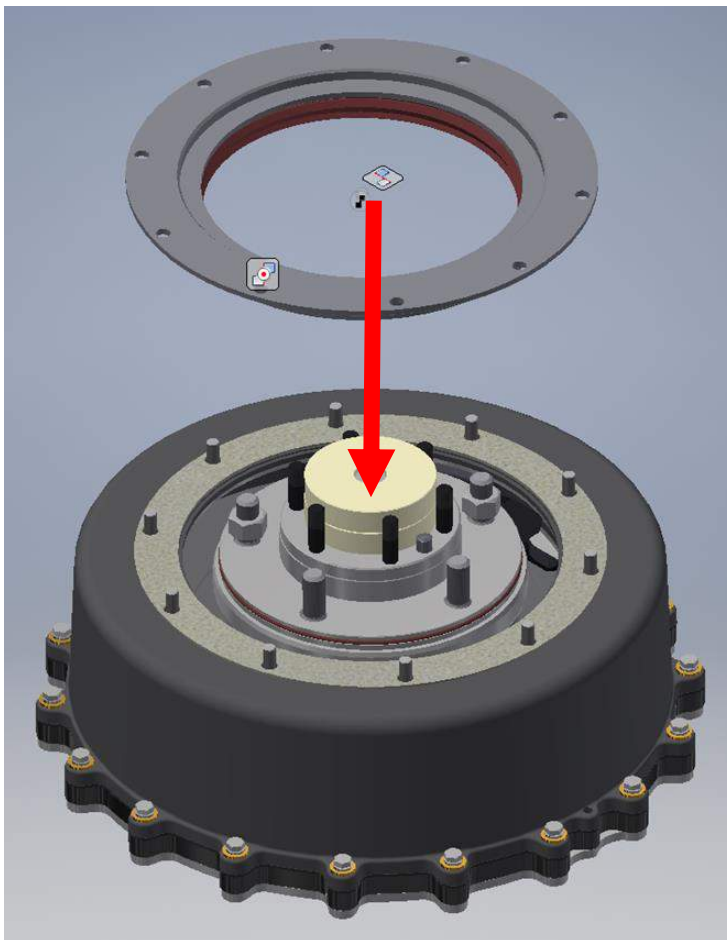

Figure 68
8. Replace Shaft seal carrier including the greased shaft seal to 10x studs on the front of the outer cover (figure 68)